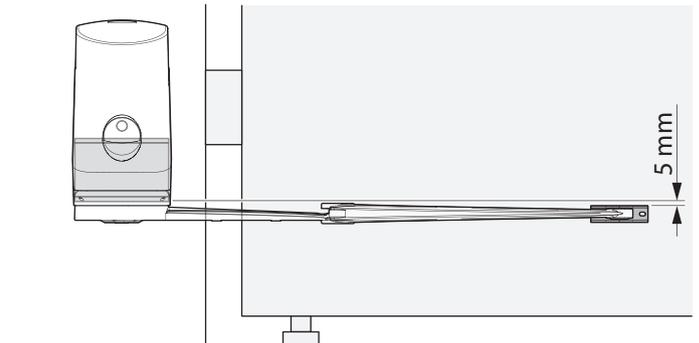

Fig. 4
⚠ WARNING! – Before fixing the rear bracket, make sure that the front bracket will be fixed to a solid position of the gate leaf; the front bracket will have to be secured at a different height than the rear bracket (Fig. 4).
02. Define the front bracket position height in accordance with Fig. 4;